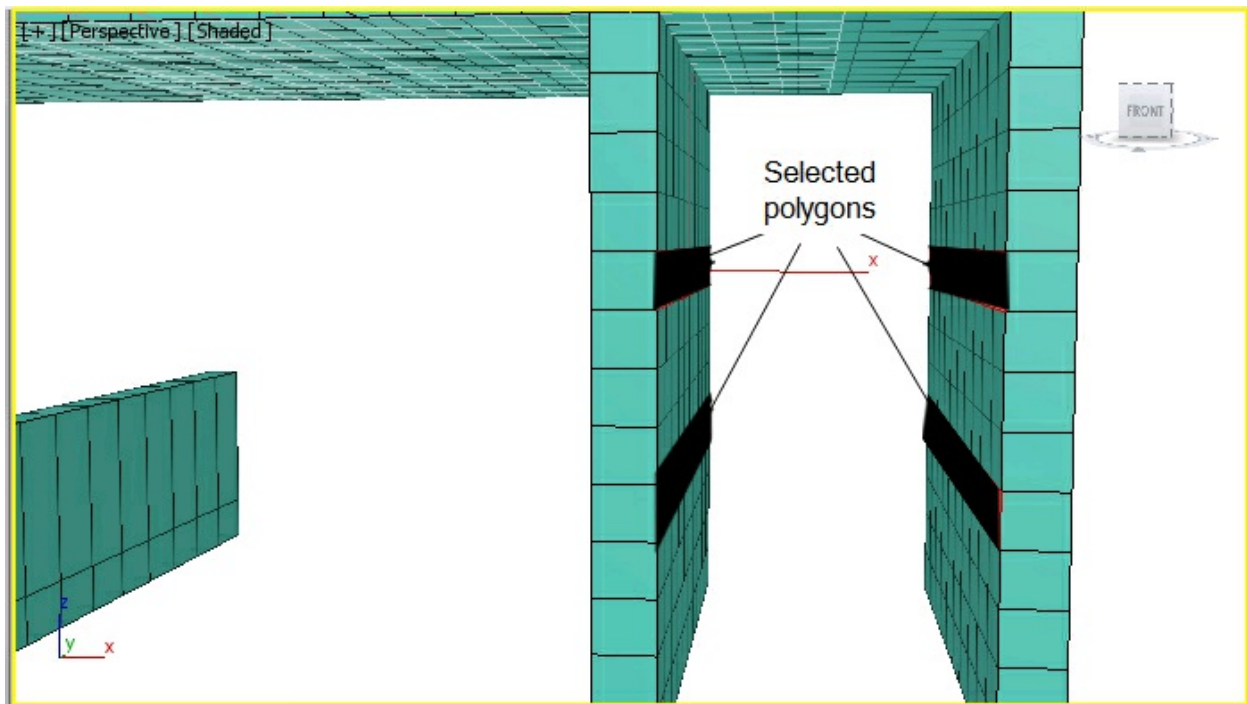

Figure 9-81 *Selected polygons of the lower parts*
11. Select the polygons from the lower part of computer table, as shown in Figure 9-81.